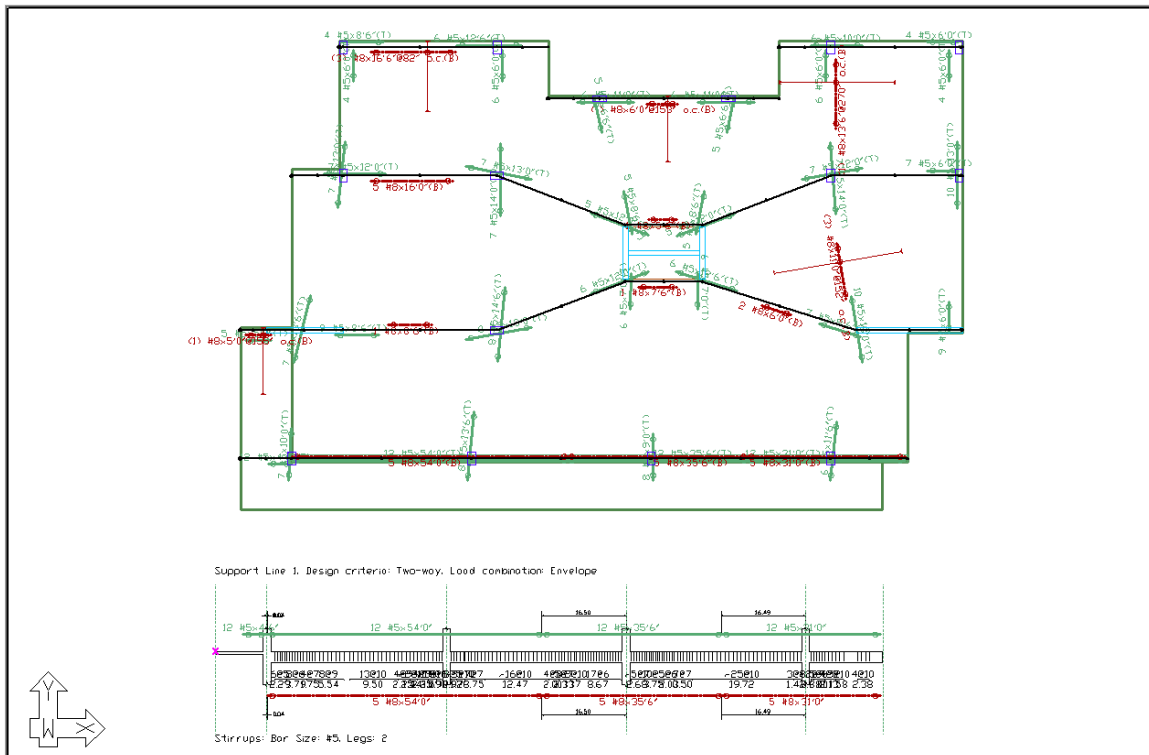

FIGURE 9-131
- Click in the white space in the model space below the floor plan. The program will draw a to scale elevation of the beam with longitudinal and shear reinforcement as shown in **FIGURE 9-131**.